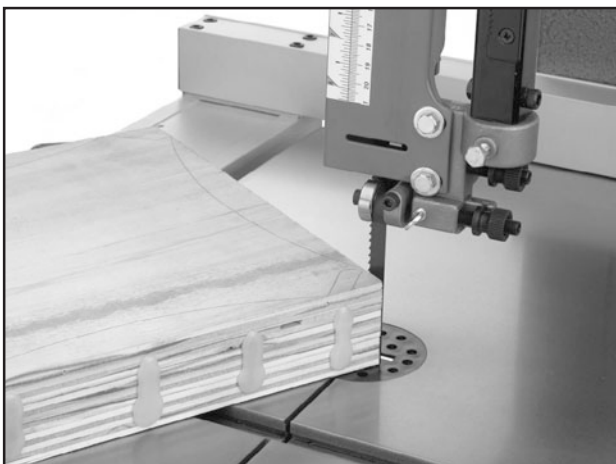

Figure 65. Typical stacked cut.
5. Cut the stack of pieces as though you were cutting a single piece. Follow your layout line with the blade kerf on the waste side of your line as shown in **Figure 65**.